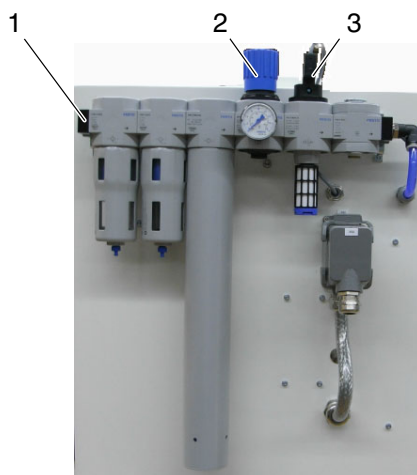

Fig. 3-7 Membrane compressed air dryer
1. Connect compressed air supply (1, Fig. 3-7).
2. Set the air pressure to 6 bar (87 psi) (2, Fig. 3-7).